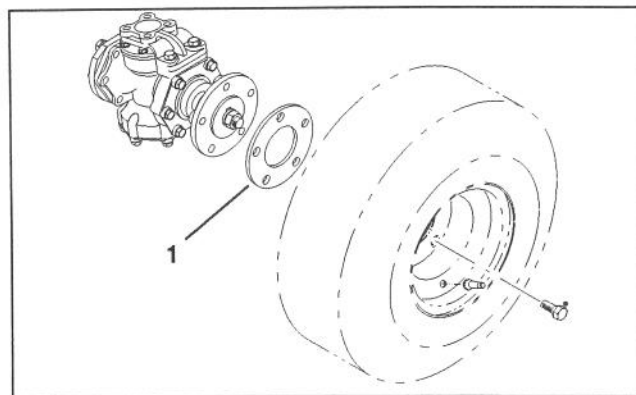

Figure 7
- Mount wheels to axle hubs with wheel spacers and wheel bolts (5 each) (Fig. 7). Torque wheel bolts to 45-50 ft-lbs.